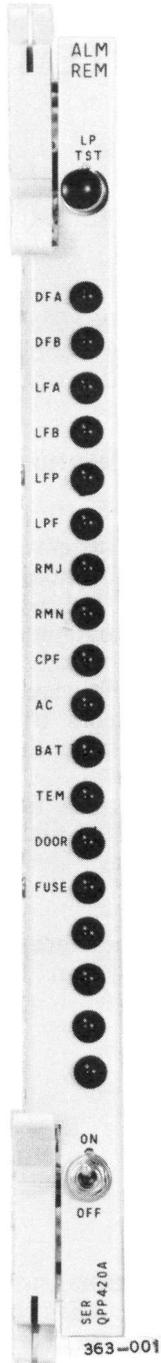

Fig. 1 — QPP420A ALM REM Circuit Pack
*Note:* Refer to 363-2011-500, Fig. 1 for interpretation of the alarm and maintenance lights.